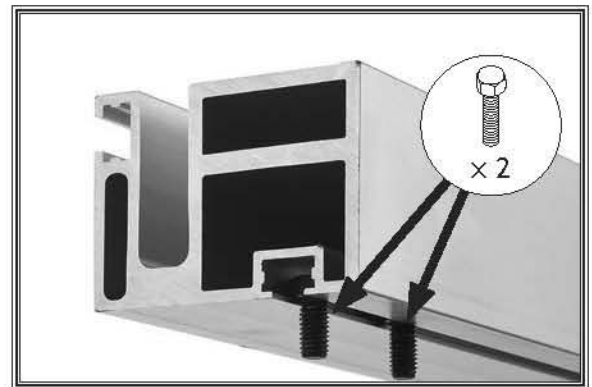

Figure 21. Location of hex bolts for mounting switch.
10. Remove (2) M8-1.25 × 16 hex bolts from switch, then remove tap screw and end cap from left end of fence rail. Insert hex bolts into bottom slot on left end of fence rail (see **Figure 21**). These bolts will be used later for mounting the switch.